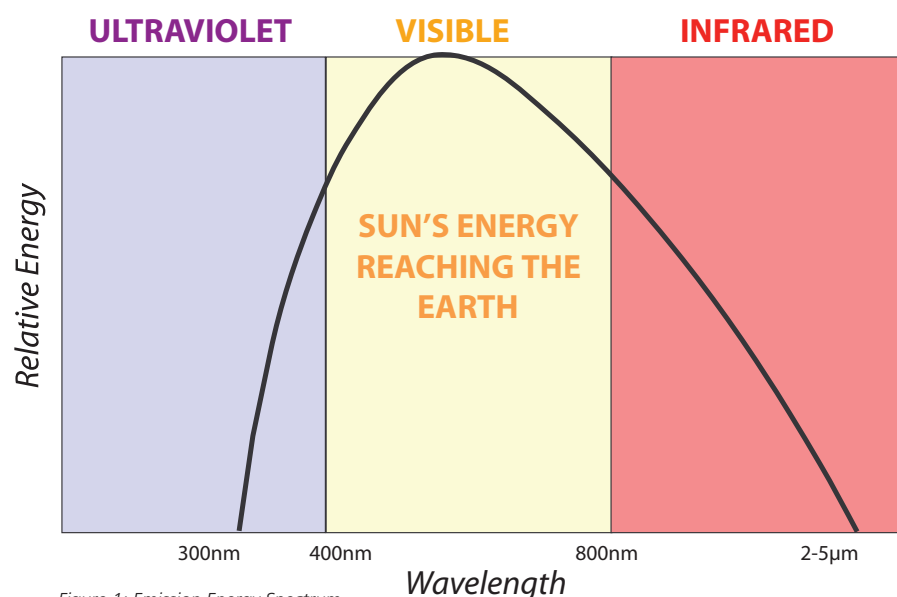

Figure 1: Emission Energy Spectrum.
Most flame detectors identify flames by so-called optical methods like ultraviolet (UV) and infrared (IR) spectroscopy and visual flame imaging. Flames are generally fueled by hydrocarbons, which when supplied with oxygen and an ignition source, produce heat, carbon dioxide, and other products of combustion. The intense reaction is characterised by the emission of visible, UV, and IR radiation (Fig 1). Flame detectors are designed to detect the absorption of light at specific wavelengths, allowing them to discriminate between flames and false alarm sources.